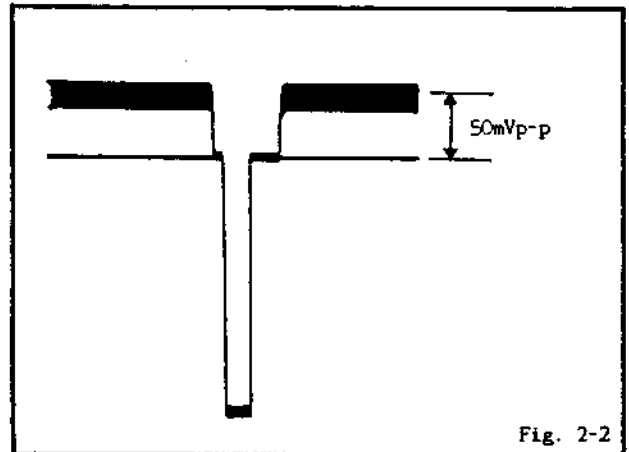

Fig. 2-2
3. Adjust VR7005 so that the waveform measures  $50 \pm 5$  mVp-p. (Refer to Fig. 2-2)